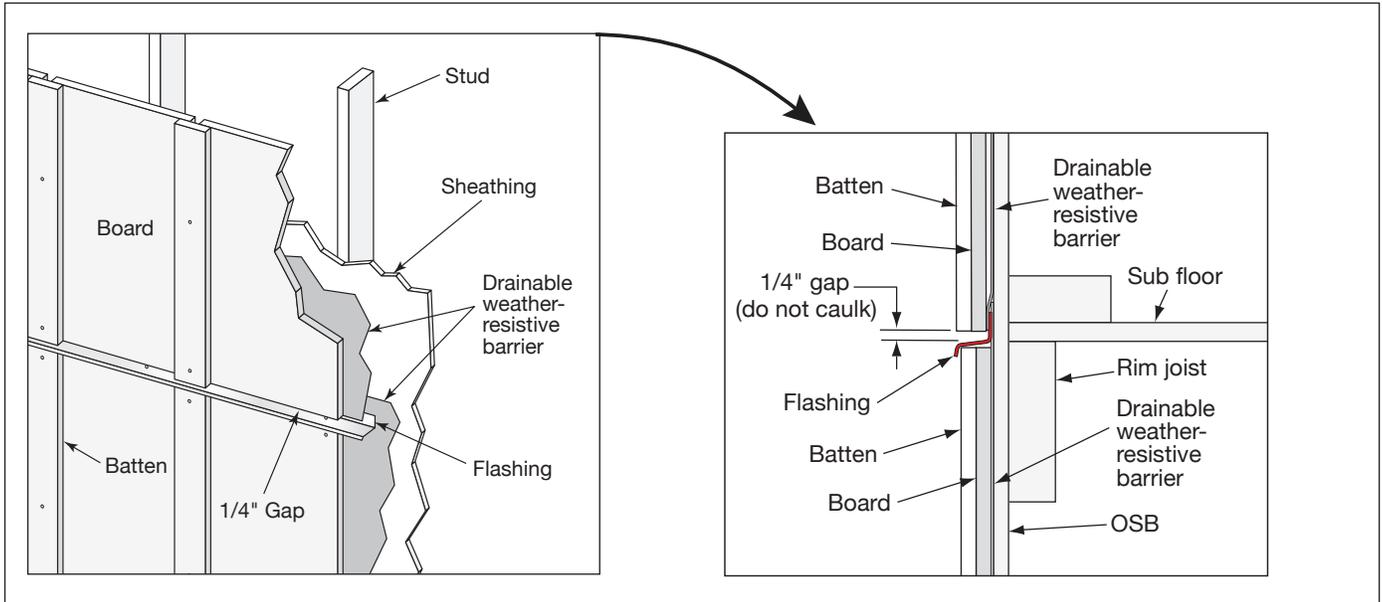

Fig. 34
- Use a piece of z-flashing tucked under the drainable weather-resistant barrier that extends to the front face of your trim (Fig. 34)
- Battens must be installed according to option 1 or 2 below (Fig.34 & 34a)